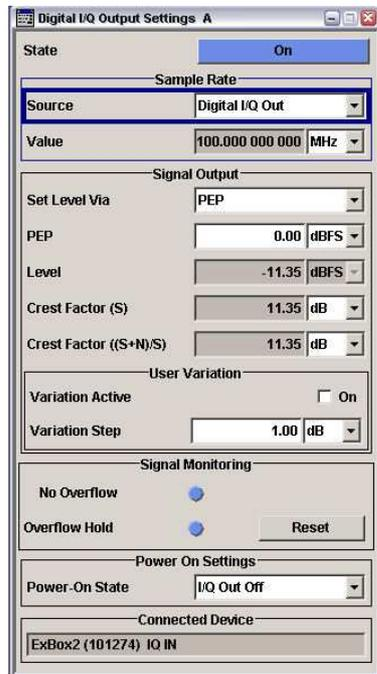

Figure 25: Configuration of the digital I/Q output
- ▶ Click *Digital I/Q Output Settings*. The panel of the same name appears (Figure 25 on page 26).
In the bottom field in Figure 25 you can see that the generator with the IQ IN input for the R&S EX-IQ-Box (with the serial number 101274) is connected. This information, too, was automatically supplied via the IQ interface's protocol.